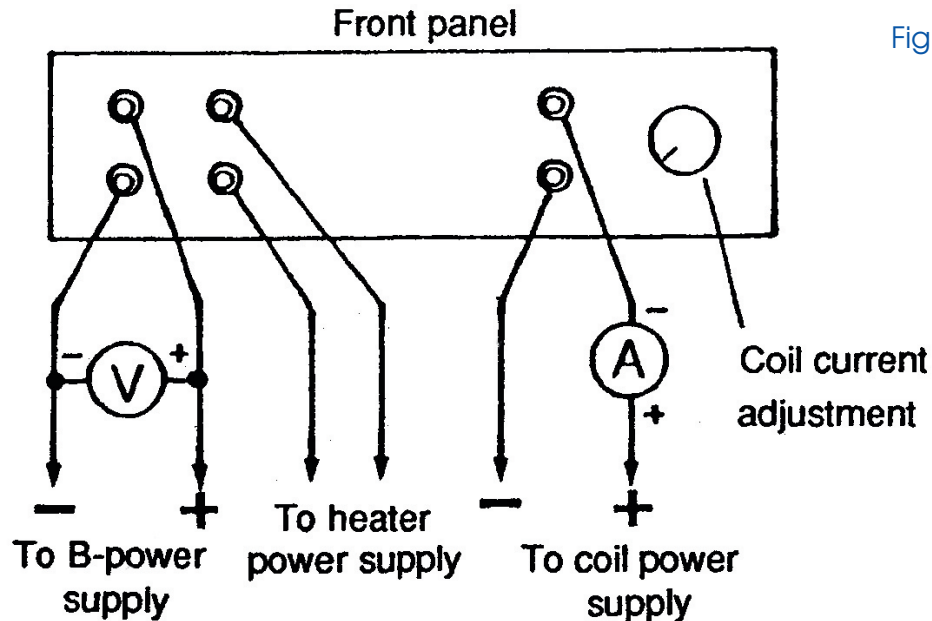

Figure 4: Wiring
3. Connect the power supply, voltmeter, and ammeter to the appropriate terminals of the main unit, as shown in Figure 4.